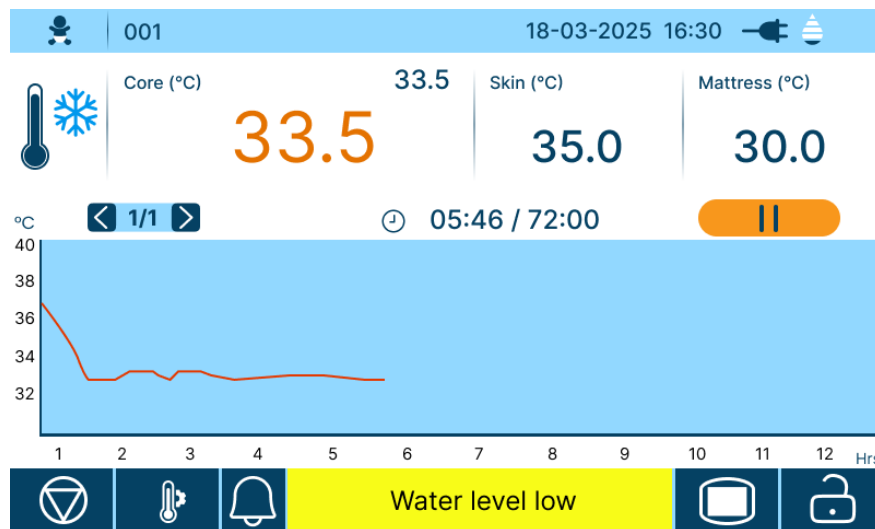
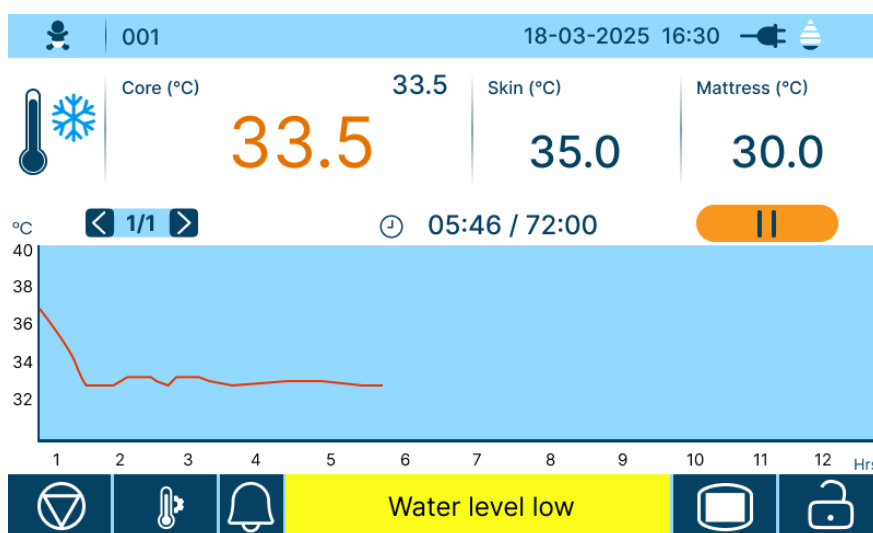

Figure 114: Low Priority Alarm Message
Figure 115: Water level low alarm before audio pause/ mute
- To mute/pause the alarm(s), tap the alarm bell icon in the monitoring screen (refer the Figure 114). Once pressed, the icon will be changed to crossed bell, meaning all current alarm audio are muted (refer the Figure 115)